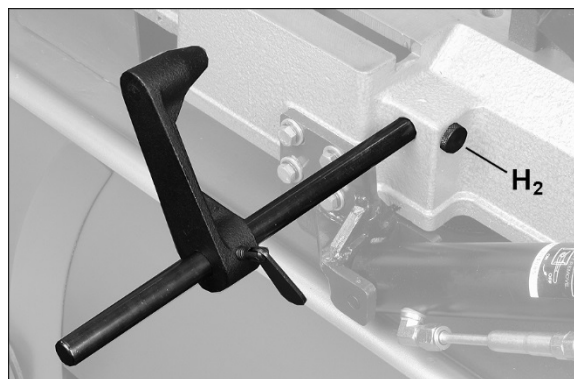

Figure 6-7: Installing Work Stop (712 only)
**712 only:** Install work stop rod into hole and tighten knurled nut (H2). Slide stop block onto rod and secure with thumb screw. See Figure 6-7.